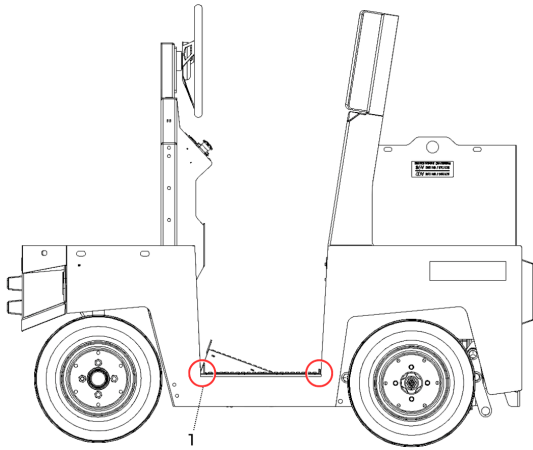

Figure 29. Side Panels.
- Side panels corners (1) (both sides). There is a possibility of cracks occurring in these corners as they undergo significant stress (see Figure 29).